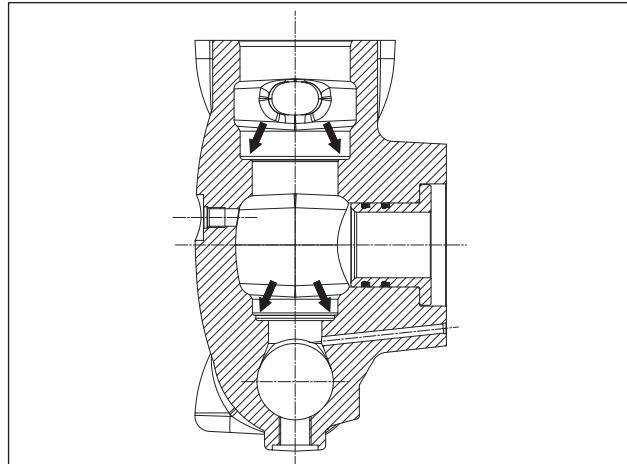

Fig. 109
Before repositioning the valve units, thoroughly clean and dry the relative housings on the head indicated by the arrows (pos. ①, Fig. 109).